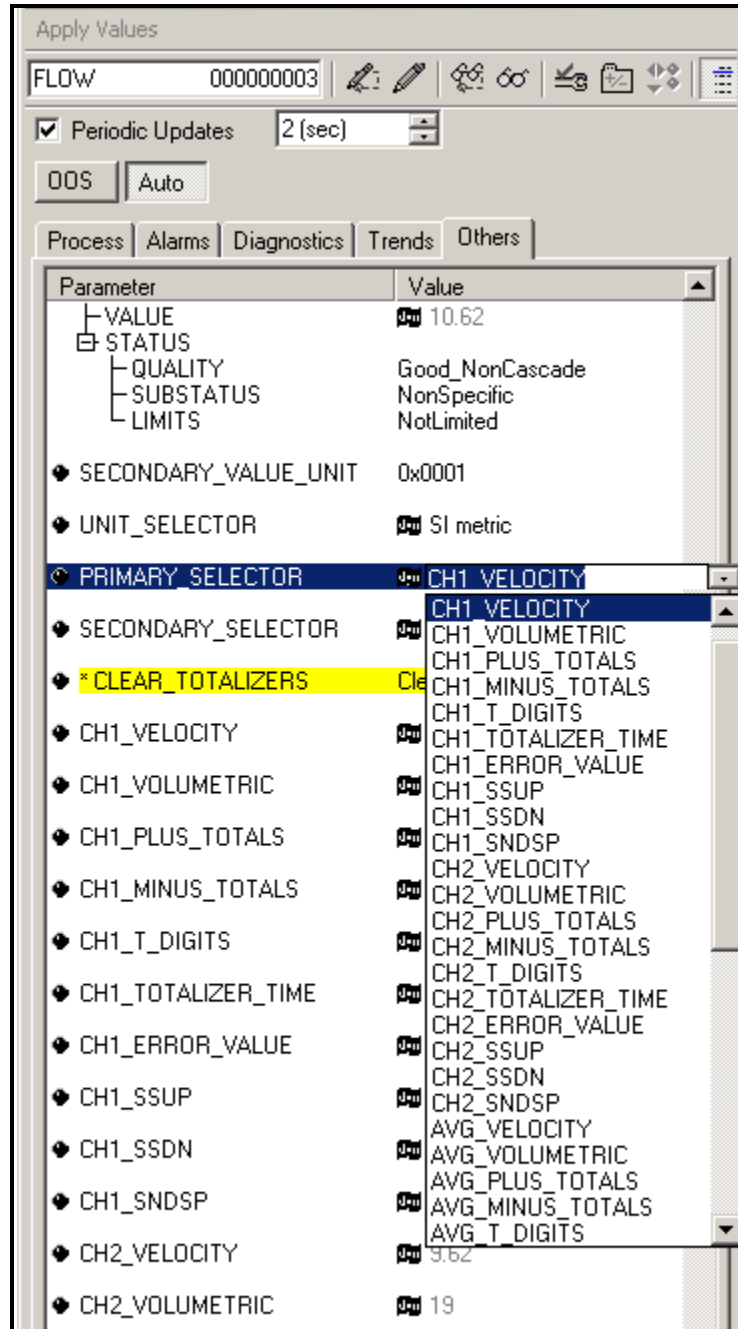

Figure E-2: Primary Selector Drop Down List
2. Select the **Others** tab and open the drop down list for the PRIMARY_SELECTOR and SECONDARY_SELECTOR (refer to Figure E-2 on page E-3).
3. Choose the unit from the list (see Figure E-2 on page E-3).